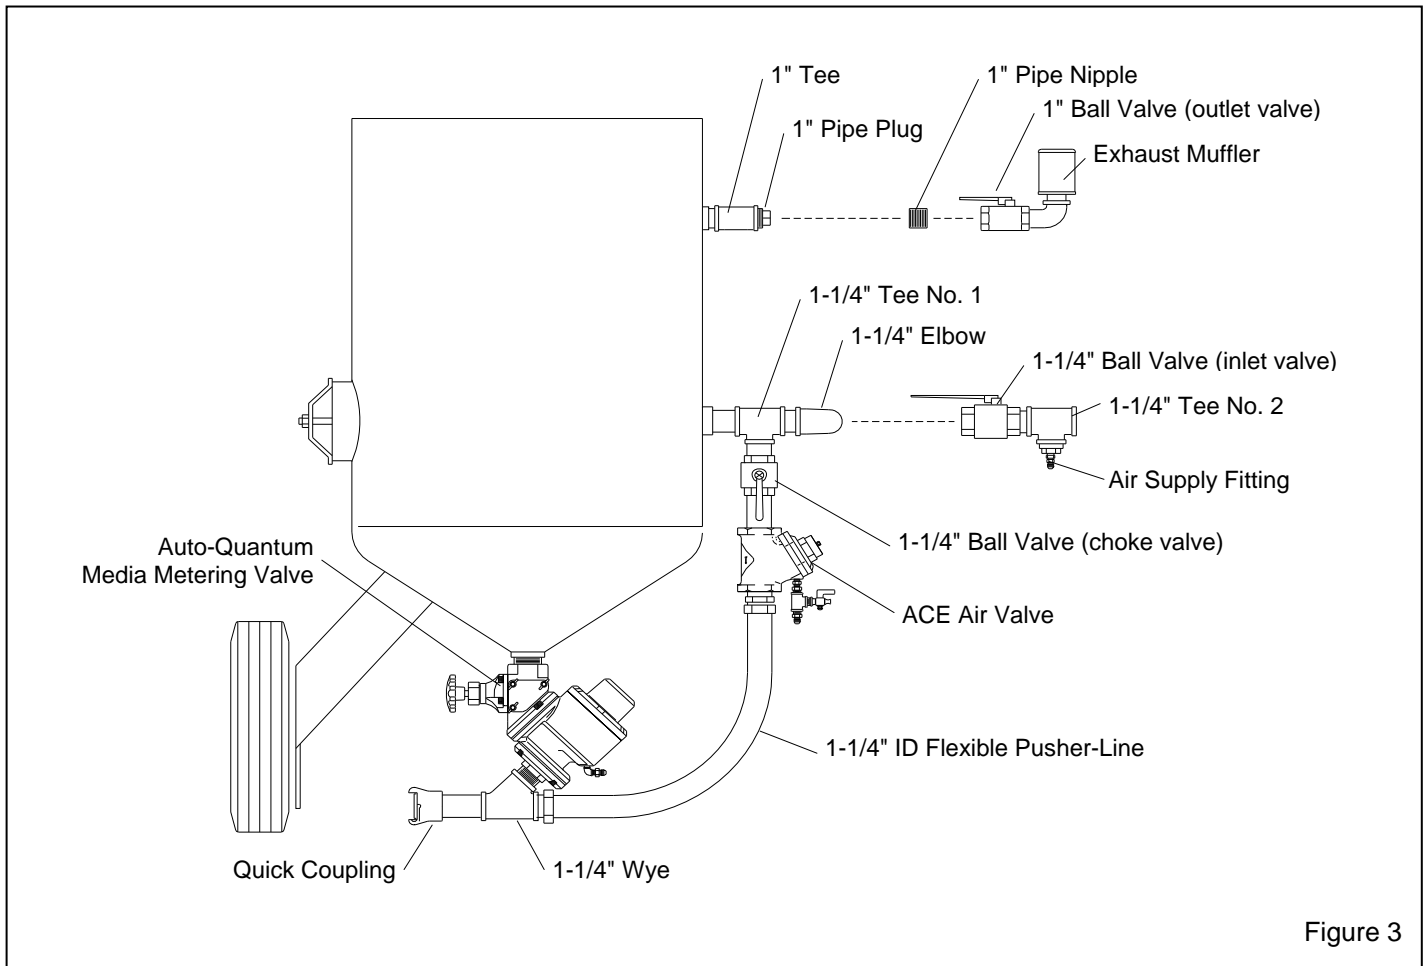

Figure 3
2.2.7 Install a 1-1/4" pipe tee (Tee No.1) at the blast machine inlet as shown in Figure 3.
2.2.8 Assemble a pusher-line between the tee-fitting and Quantum valve using standard pipe fittings or flexible pusher-line as shown in Figure 3. Start at the tee and work downstream; this line must include a manual choke valve and the ACE air valve, in that order.